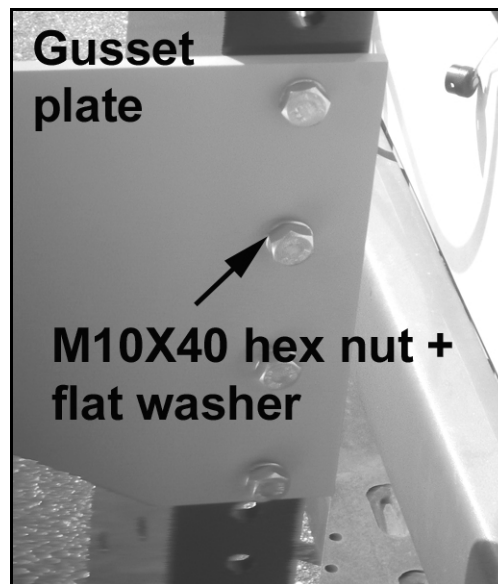

Figure 7: Attach antenna assembly.
Step 5: Attach the antenna assembly to the hitch mount (Figure 7). The distance from the bottom of the antenna to the road surface should be approximately 18" (50 cm). Test fit the antenna assembly to the hitch mount to choose the correct hole matchup. Slide one M10 flat washer over one of the M10X40 hex bolts and then slide that bolt through the gusset plate and hitch mount (Figure 7).